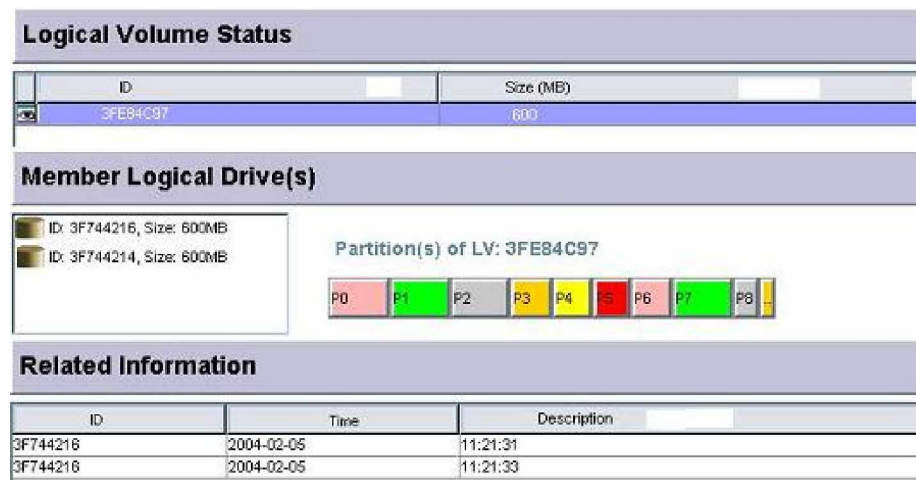

Figure 11-6: Opening Logical Volume Information Display
Step 1. To access the *Logical Volume Information*, single-click its display icon on the GUI navigation panel or select the command from the “*Action*” command menu. After opening the information window, select a logical volume by single mouse-click. The window defaults to the first volume on the list. A display window as shown in *Figure 11-6* should appear.